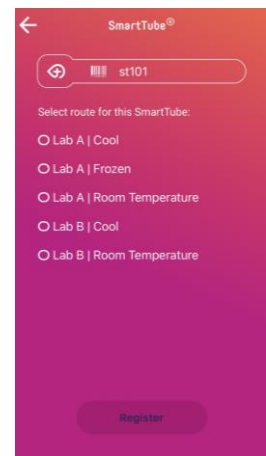

Figure 7. Assign SmartTubes to routes
- c. Tap the  button to select the desired route. Only one route may be selected. After a route has been selected, the  button will appear solid, and the "Register" button will be enabled (see Figure 7).